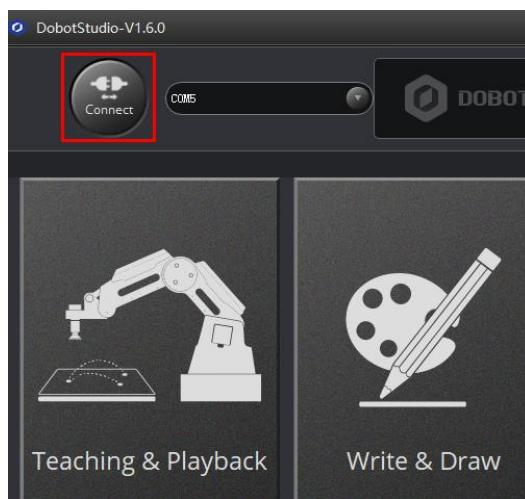

Figure 2.14 Click Connect
Step 2 Click **Connect** on the DobotStudio page, as shown in Figure 2.14.